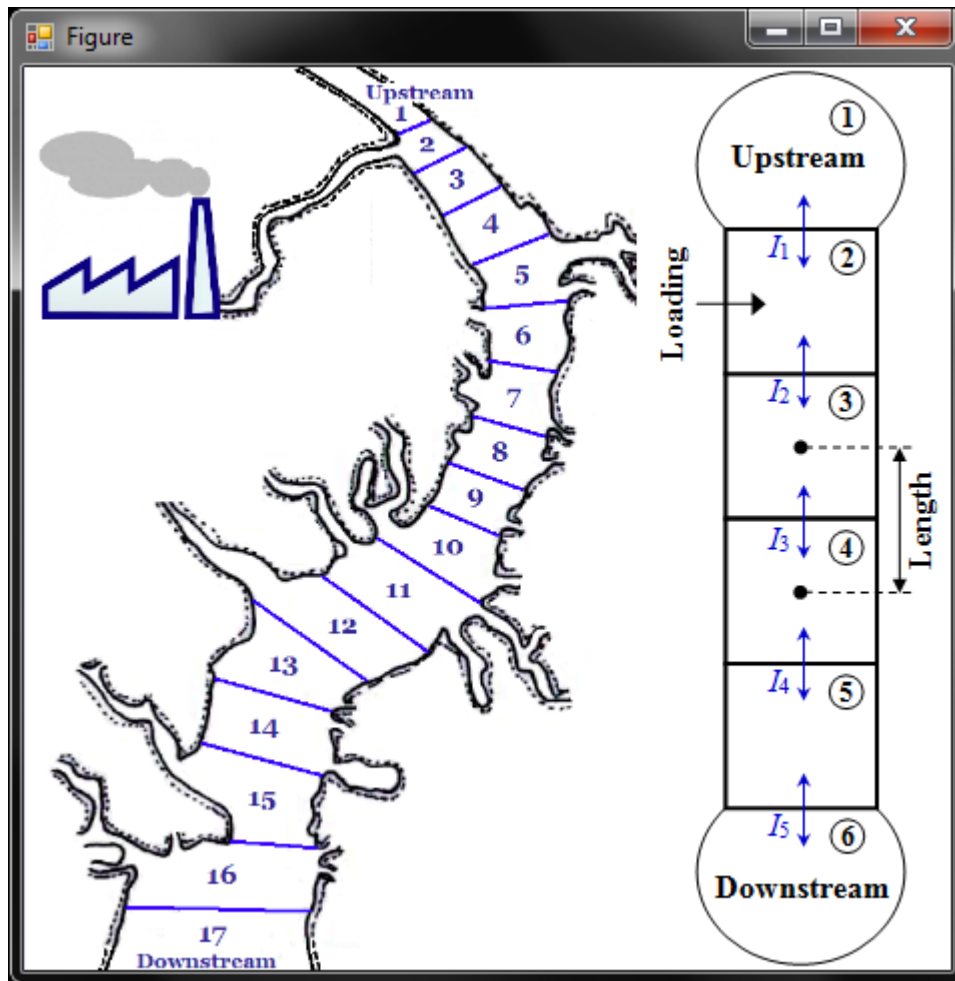
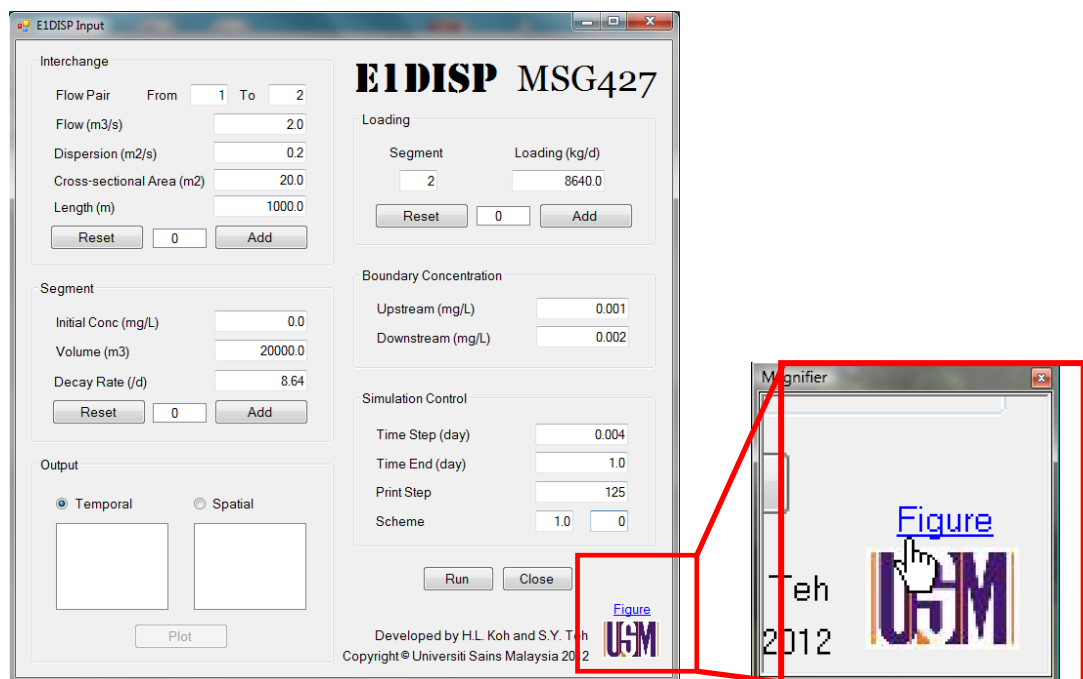

Figure 2: An illustrative river example
Figure 3: The link Figure in E1DISP input window
The river segmentation as shown in Figure 2 is used as an illustrative example. Figure 2 will be displayed when the link Figure in E1DISP input window (see Figure 3) is clicked.
For convenience of initialization, we treat this river as a uniform river with constant cross-sectional area and constant flow. In reality, the cross-sectional area and flow will increase in the downstream direction. There is a small factory and a small farm releasing a chemical known as BOD into this river at an upstream location. We want to simulate how this BOD will change in its concentration as it moves downstream. We divide this river into several segments. In Figure 2 (left), we have 17 segments with segment 1 as the upstream segment and segment 17 as the downstream segment. Segment 2 is located at the upstream and segment 16 is located at the downstream end. The length of each and every segment is 1000.0 m with a constant cross-sectional area of 20.0 m². The volume of water contained in each segment is 20000.0 m³. We assume that the flow in this river is 2.0 m³/s through the entire stretch, which implies a river velocity of 0.1 m/s. We further assume that the BOD from the factory/farm is discharged into segment 2 at the loading rate of 8640.0 kg/d (= 0.1 kg/s). The decay rate for BOD is 8.64 d⁻¹ (= 0.0001 s⁻¹). We need to impose the upstream and downstream boundary conditions. Again, for convenience, we assume the upstream boundary is 0.001 mg/L and downstream boundary is 0.002 mg/L. The dispersion coefficient is 0.2 m²/s. We have chosen the numbers so that no same number will appear twice in the input screen.
As a start, we suggest that you consider a simulation with only 4 segments (2-5) and two boundary segments (1 and 6) as shown in Figure 2 (right). There will be five interfaces ($I_1 - I_5$) which we call interchange or exchange pairs. The first interchange is the interface between the upstream segment 1 and segment 2. In the same way, interchange 5 is the interface between segment 4 and the downstream segment 6. When you double click on E1DISP.exe, the E1DISP input window (Figure 4) will be displayed with default numbers that reflect the river that we have chosen to simulate. There are FIVE groups of input data: (a) **Interchange** (Figure 5), (b) **Segment** (Figure 6), (c) **Loading** (Figure 7), (d) **Boundary Concentration** (Figure 8), (e) **Simulation Control** (Figure 9) and one group of output data: (f) **Output** (Figure 10). The default values and their respective units will be displayed on the input window, prompting you to either use them as is OR modify them as you wish. Note that the button <Plot> in the Output group will remain deactivated until the model is run successfully.
4. Now set up the input data for the river with 15 segments as shown in Figure 2 (left).